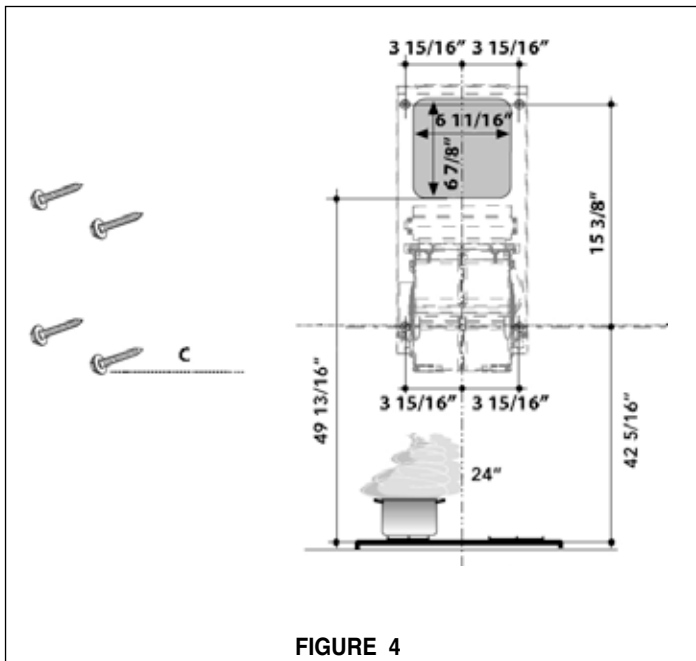

FIGURE 4
NOTE: The installation diagram in FIGURE 4 on the next page is used for the recommended installation height of 24" off the cooktop. For maximum installation heights of up to 30" off the cooktop, add onto the horizontal line of $42 \frac{5}{16}$ " in FIGURE 4. For example add 6", or $48 \frac{5}{16}$ " total, to install 30" off the cooktop.
3. Draw a Horizontal line at a minimum of 42 5/16" above the Cooktop, see (FIGURE 4 for reference)